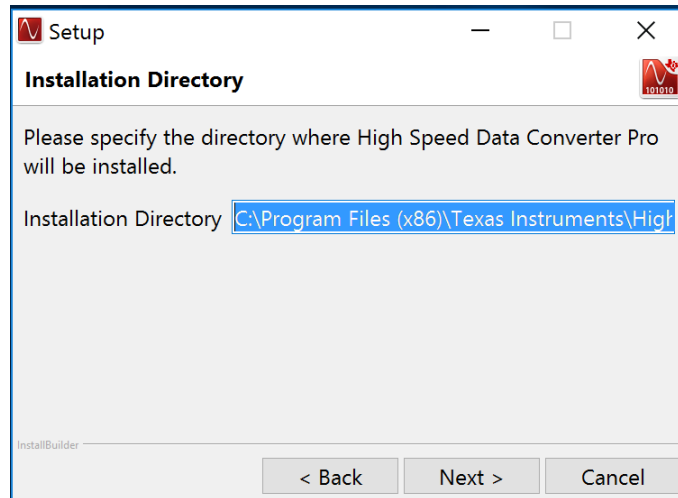

Figure 25. HSDC Pro Install (Install Directory)
5. Allow the installation to be placed in the default directory by clicking *Next*, as in Figure 25.